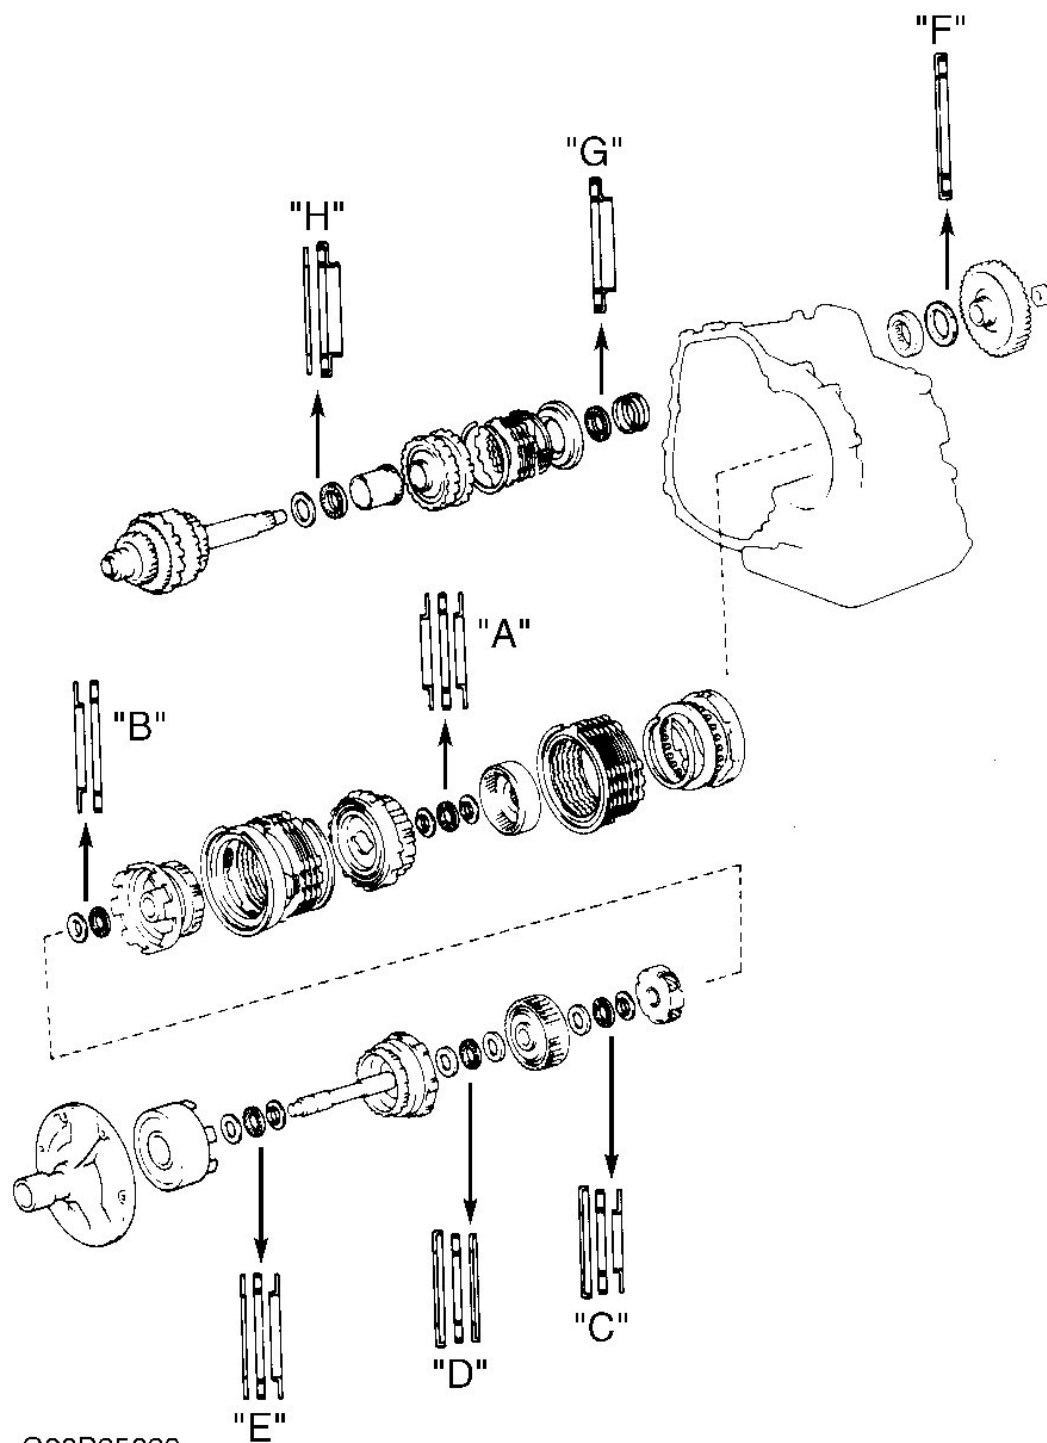

Fig. 64: Identifying Bearing Race & Thrust Bearing Locations
13. Piston stroke should be .059-.075" (1.50-1.90 mm). If piston stroke is not within specification, install correct flange. Flanges are available in thicknesses of .080" (2.04 mm), .087" (2.20 mm), .094" (2.40 mm) and .098" (2.50 mm). Install thrust bearing "G". See Fig. 64. Install sun gear in transaxle case.
15. Install thrust bearing "F". See **Fig. 64** . Press in counterdriven gear. Install NEW lock nut. Using holder and adapter, tighten lock nut to 133 ft. lbs. (180 N.m). Stake lock nut. Using a dial indicator, measure countershaft end play. End play should be .008-.035" (.20-.89 mm).
18. Check 1st and reverse brake clutch pack clearance. See **Fig. 18**. Clearance should be .047-.093" (1.19-2.35 mm) on A-245E models. Clearance should be .047-.089" (1.19-2.25 mm) on A-247E models. On all models, install thrust bearing and races "A" in rear planetary ring gear. See **Fig. 64**. Align disc tabs. Install thrust washer on rear planetary gear. Ensure tabs align with grooves of gear.
24. Install thrust bearing and race "B" on front planetary gear. See **Fig. 64**. Install planetary gear. Install thrust bearing and race "C" on front planetary ring gear. See **Fig. 64**. Install front planetary ring gear. Install intermediate shaft oil seal ring.
26. Install thrust bearing and race "E" on forward clutch drum. See **Fig. 64**. Install clutch drum thrust washer on direct clutch drum with oil groove facing upward. Align clutch disc tabs. Install direct clutch into forward clutch. If tabs are aligned with hub correctly, end of direct clutch drum bushing will be flush with surfaces of forward clutch.
(1) For bearing race and thrust bearing specifications and location, see **Fig. 64** .
(2) O.D. = Outside Diameter; I.D. = Inside Diameter.